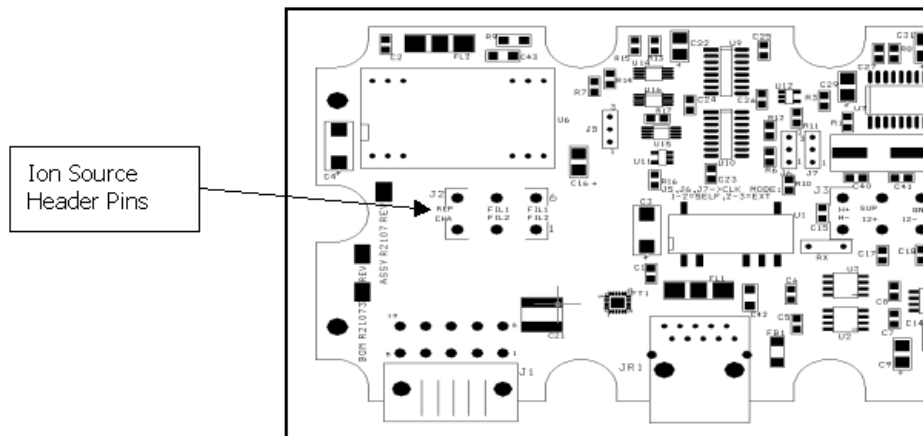

Figure 14: Ion Source Header Pin Schematic
22. On the PCB, use the resistance meter to verify an open circuit between any two of the six ion source header pins (except FIL-1 to FIL-1 and FIL-2 to FIL-2 which should be 0.3 Ohms or less). Also verify an open circuit between the body of the spectrometer and any of the ion source header pins (Figure 14: Ion Source Header Pin Schematic). If there is continuity (short circuit) at any of the points, remove the header and inspect for shorting.